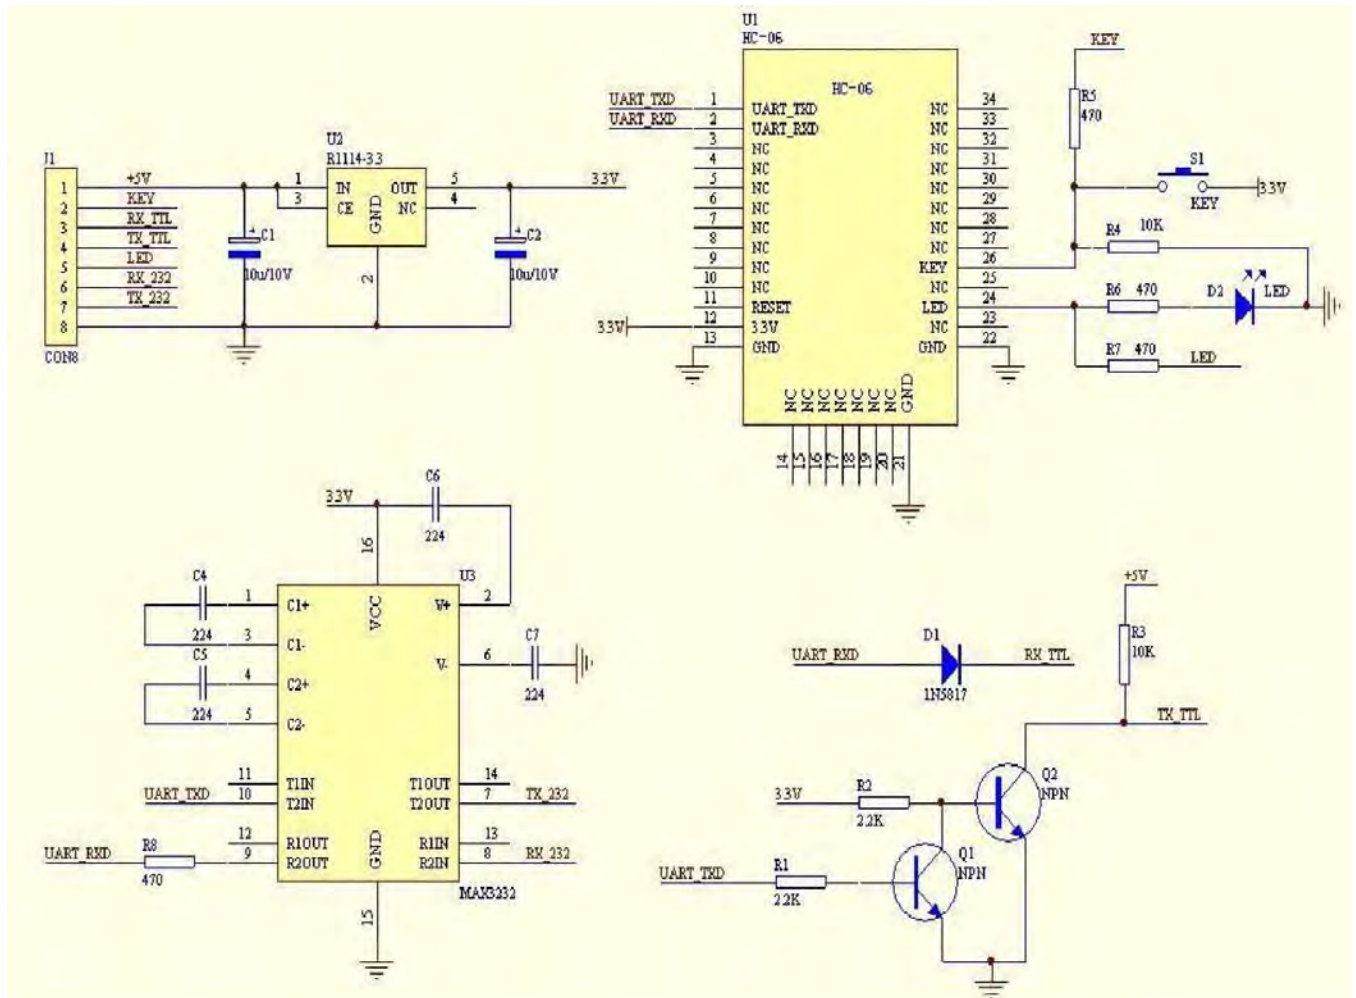

Figure 6 The circuit 2
**(2) The circuit 2 (connect the module to 5V serial port of MCU) is showed by figure 6.**
Figure 6 is the block diagram of Bluetooth baseboard. This kind of circuit can amplify Bluetooth module's operating voltage to 3.1-6.5V. In this diagram, the J1 port can not only be connected with MCU system of 3.3V and 5V, but also can be connected with computer serial port.